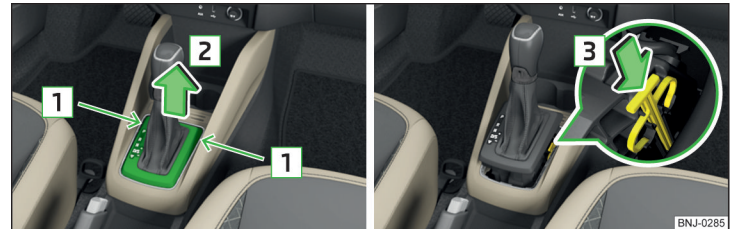

Fig. 286 Remove / release the selector lever
- › Insert a flat-head screwdriver or similar tool into the gap in the arrow area **1** » Fig. 286 and carefully lift the cover in arrow direction **2**.